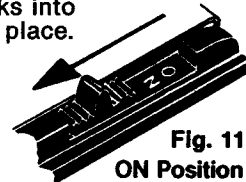

Fig. 11
6. Push chart drive switch to "ON" position exposing the word "ON." Make sure switch clicks into detent position which locks it into place. See fig. 11.